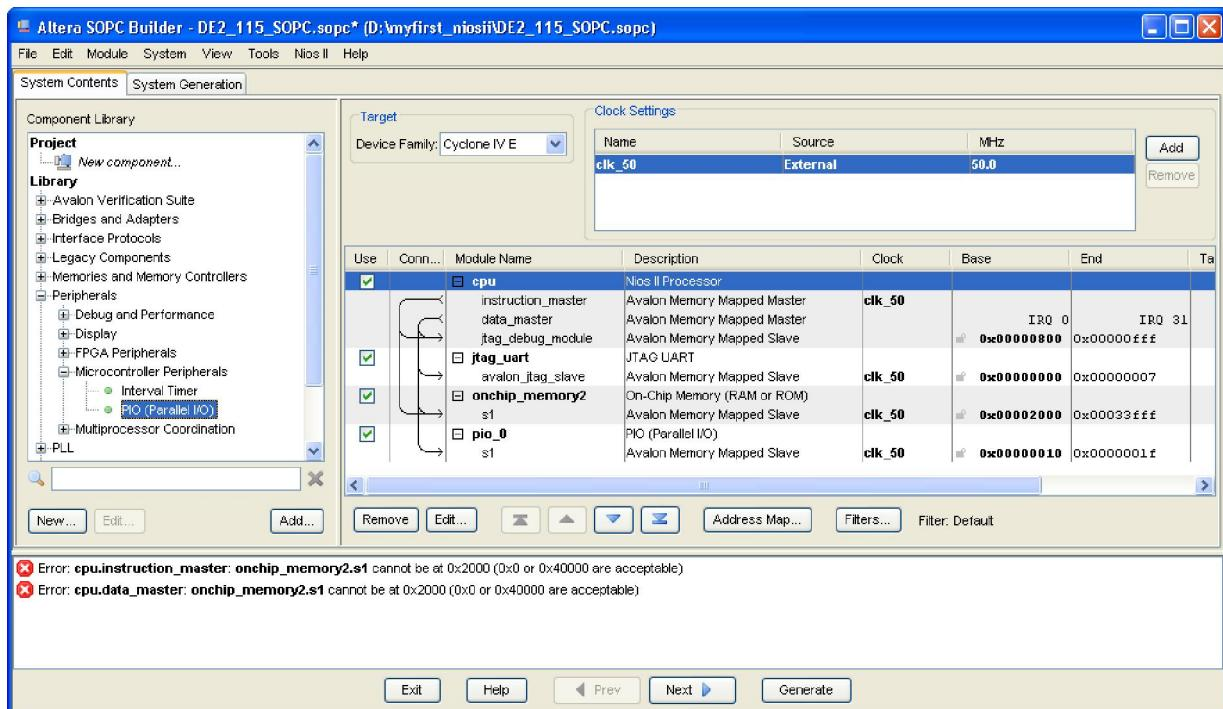

Figure 1-32 PIO
20. Click **Finish** to close PIO box and return to the window as shown in **Figure 1-32**.